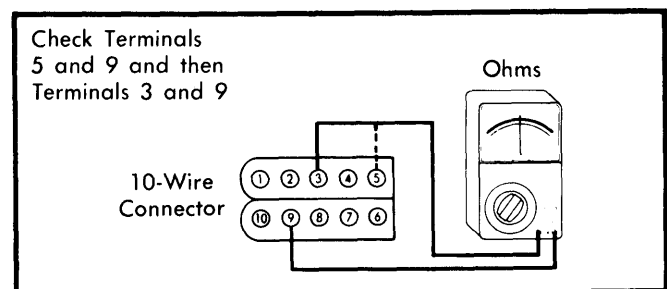

Fig. 8 Ohmmeter Hookup for Checking Pick-Up Coil Resistance
10) Turn ignition switch "OFF". Attach ohmmeter leads to terminals 5 and 9 of 10-wire harness connector to check run pick-up coil resistance and to terminals 3 and 9 to check start pick-up coil resistance. See Fig. 8. Resistance should be 150-900 ohms. If so, proceed to step 12).